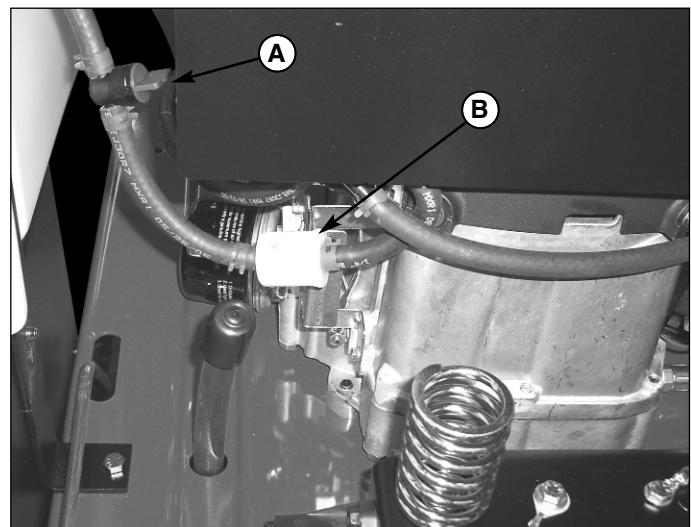

Figure 18. Fuel Valve Replacement
1. Shut off the fuel valve (A, Figure 18).
4. Using pliers, open and slide hose clamps from fuel filter (B, Figure 18).